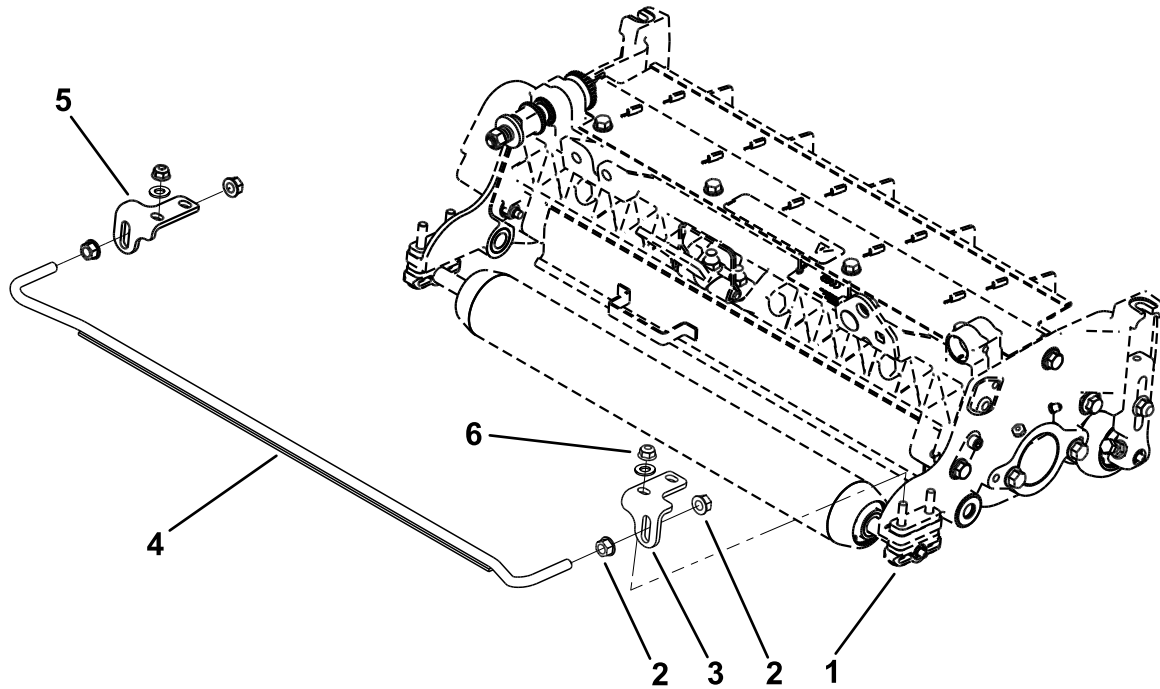

Figure 3
- Mount the appropriate scraper bracket (right or left) to each roller bracket with 2 flange locknuts (5/16 inch) and 2 washers. Position the brackets as shown in **Figure 3**. Ensure that the roller is secure in the roller brackets.
- Thread a flange locknut (3/8 inch) onto each end of the scraper rod as shown in **Figure 3**.
- Insert the scraper rod into the scraper brackets and loosely secure it with 2 flange locknuts (3/8 inch) as shown in **Figure 3**.